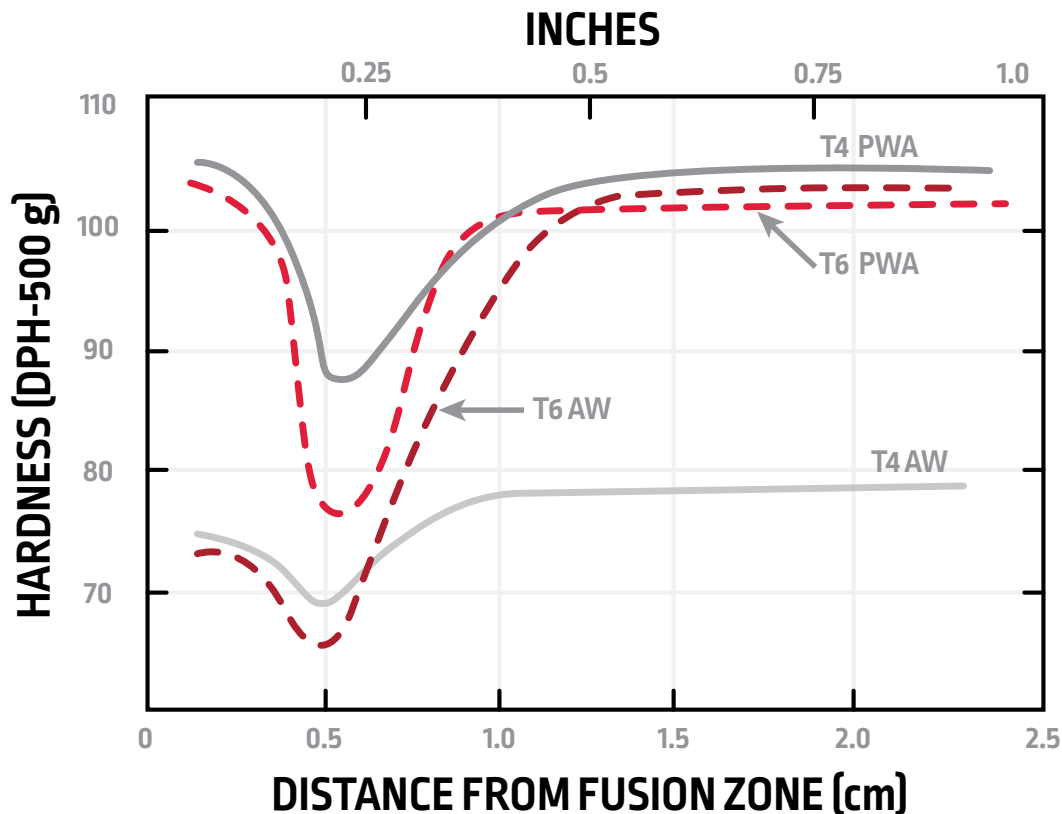

Figure 2-1: Hardness vs Distance for 6061-T4 and T6 in the As-Welded (AW) and Post-Weld Aged (PWA) Conditions
There is no blanket statement that can be made about the welded strength of heat-treatable alloys. As previously stated, the weld will generally be weaker than the parent material. However, the welded properties will strongly depend on the temper of the material before welding and also on heat treatments performed after welding. Figure 2-1 shows a micro-hardness trace across a weld, starting at the center of the weld. The graph actually shows four curves representing what happens to material in the T4 and T6 tempers in the as-welded (AW) and post-weld heat-treated (PWA) conditions.